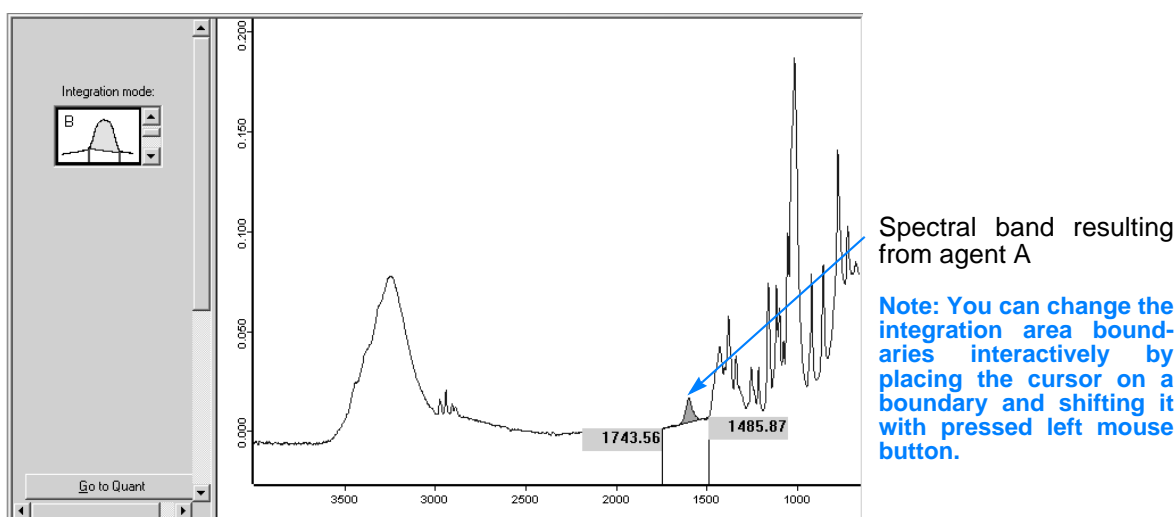

Figure 63: Defining the Integration Area and the Integration Method
- 6 Click on the *Set Integration Area* button. Thereupon, the window shown in figure 63 appears allowing you to set an integration area and select an integration method.